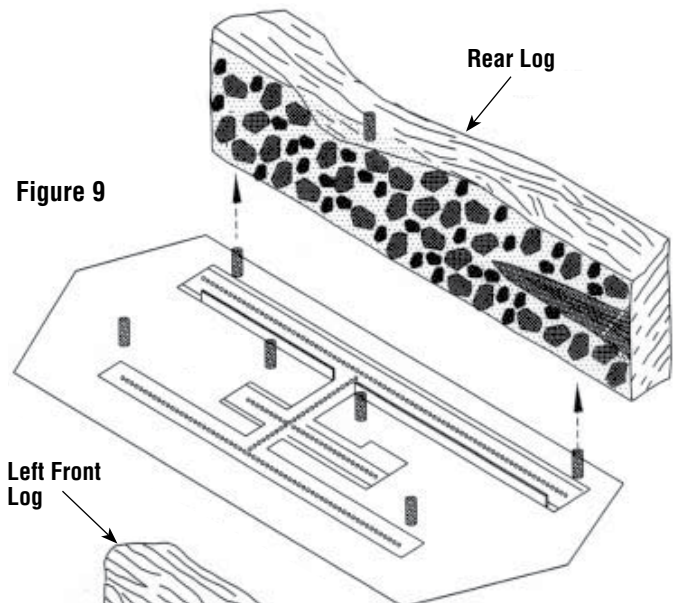

Figure 9
2. Place the rear log with the charred surface forward, on the two rear locating pins (see Figure 9).